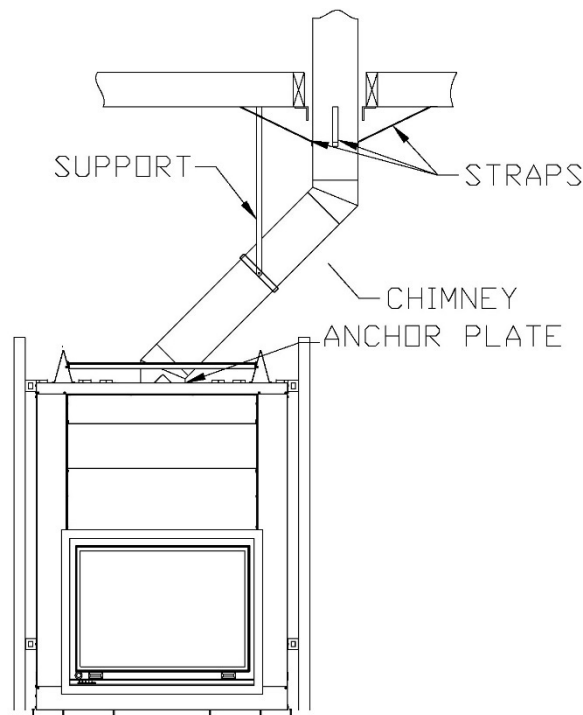

Figure 34
1. Install the first elbow; turn it in the required direction. Secure it to the chimney according to the chimney manufacturer's instructions. In many cases, it is recommended to secure connections with three (3) ½" (12 mm) metal screws.
2. Install the necessary chimney lengths to achieve the required offset. Lock the chimney lengths together according to the chimney manufacturer's instructions. In many cases, it is recommended to use three (3) ½" (12 mm) metal screws. If the offset length is made of two (2) chimney lengths or more, many chimney manufacturers may require that you use an offset or roof support halfway up the offset. If penetrating a wall, install a wall radiation shield supplied by the chimney manufacturer (see **Figures 34 and 35**).